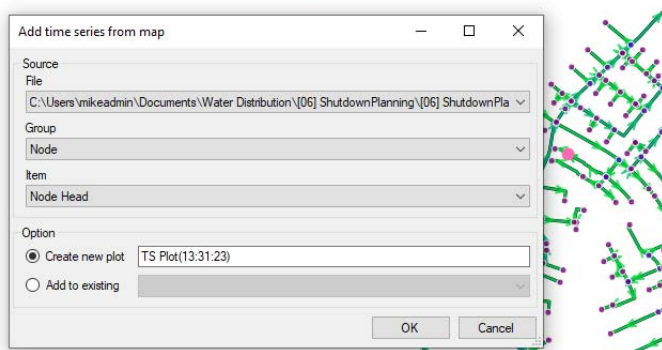

Figure 20.29 Select and display time series from a node
- **TS from map.** This tool allows for creating a time series plot directly from a selected item on the map (i.e. Map View) (Figure 20.29).